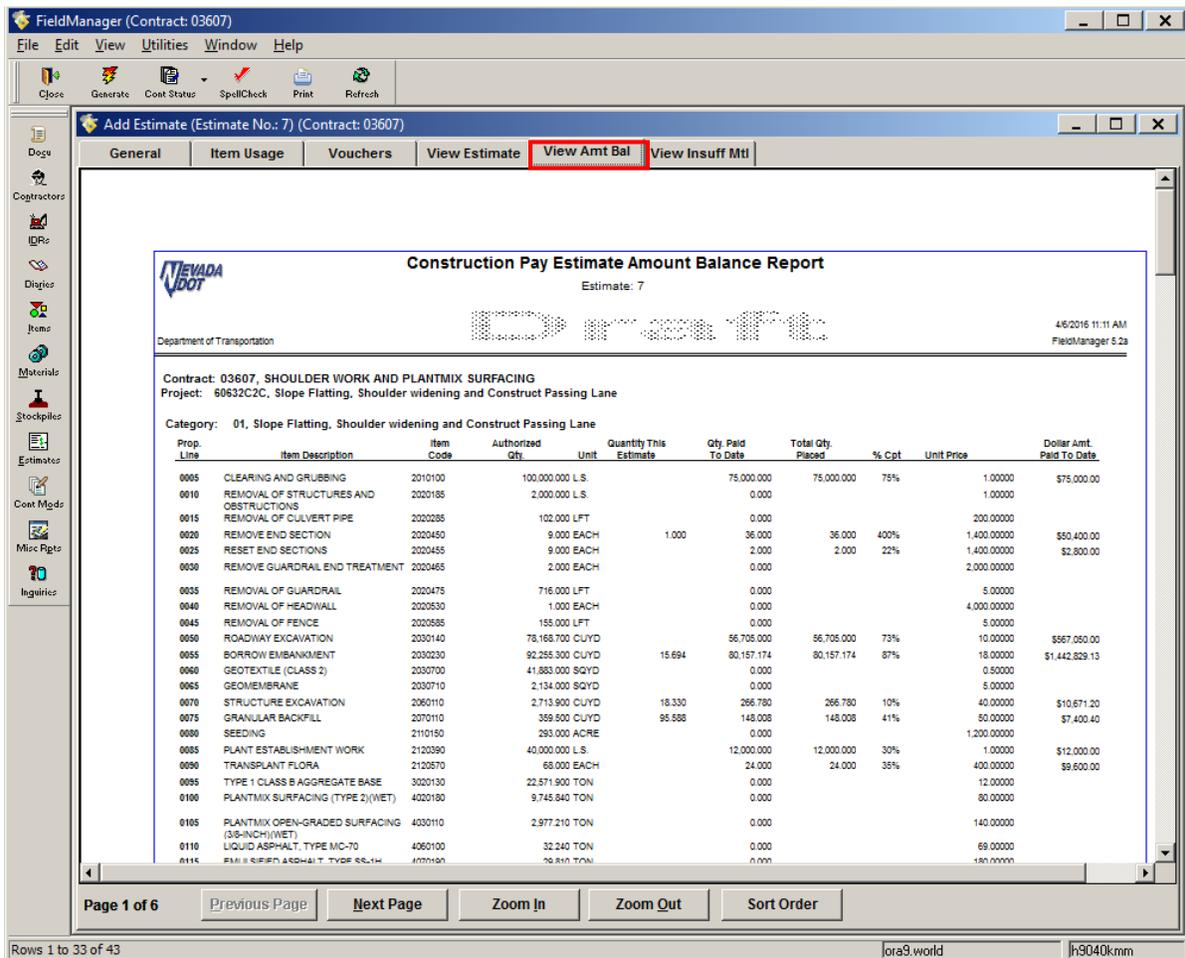

Figure 11-10. Add Estimate Tab Window – View Amt Bal Tab (Construction Pay Estimate Amount Balance Report)
1. Click the **View Amt Bal** tab (Figure 11-10). The Construction Pay Estimate Amount Balance Report Opens.